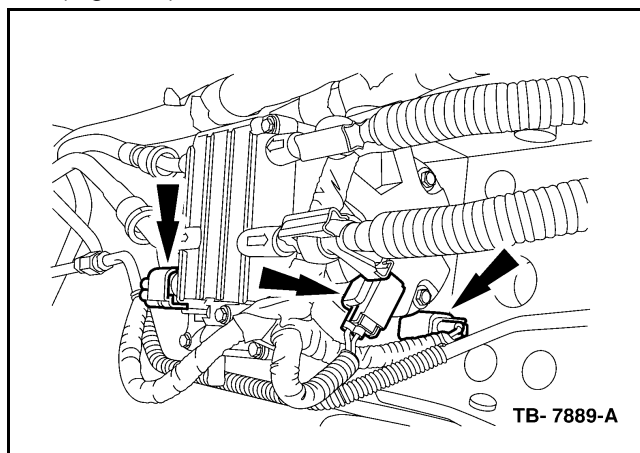

Figure 2 - Article 04-9-2
4. Disconnect the fuel pump, fuel warmer and water-in-fuel electrical connectors from HFCM (Figure 2):